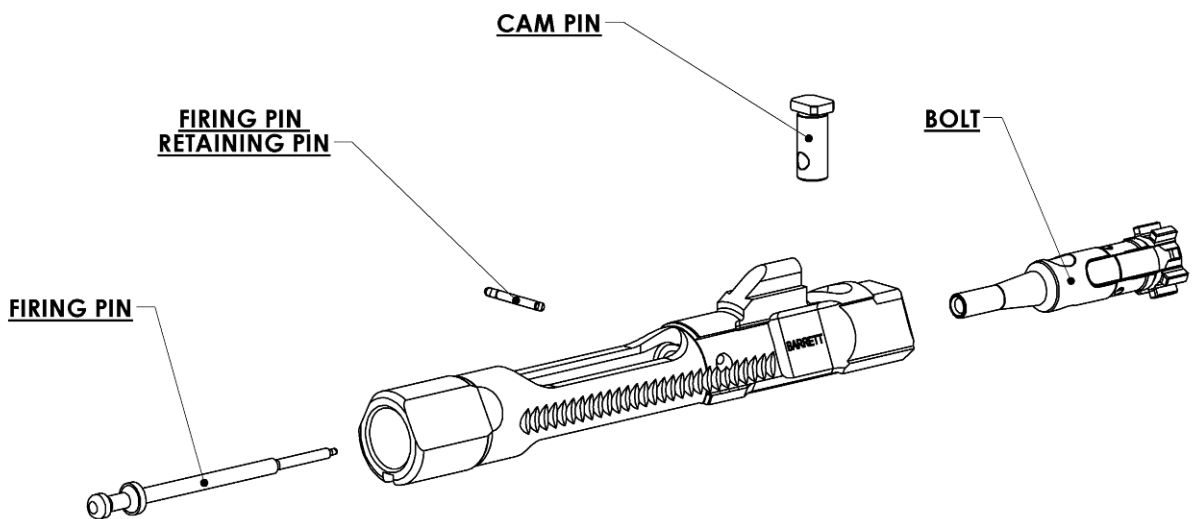

Figure 21-1 Bolt Carrier Assembly
1. Remove the firing pin retaining pin by pushing it through until it can be gripped and pulled out. Remove the firing pin by sliding it out of the rear of the bolt assembly. Remove the cam pin by lifting up. Pull the bolt assembly from the bolt carrier. (Figure 21-1).